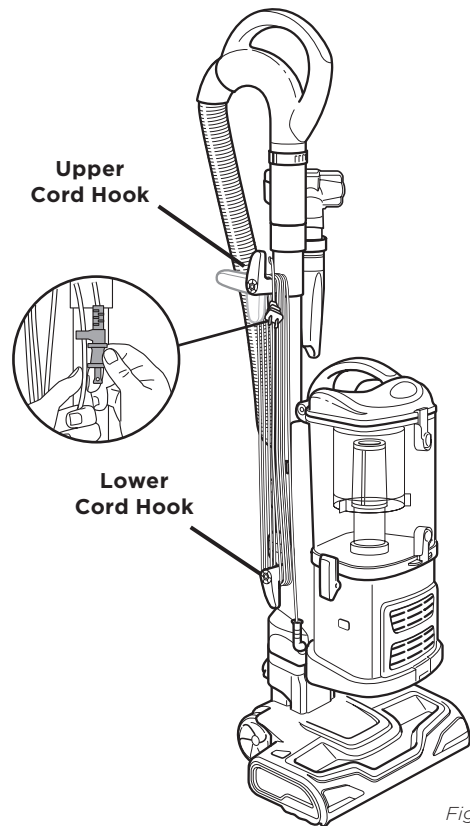

Fig. 12
- 2 Rotate the upper cord hook to its upright position and coil the power cord loosely around the two cord hooks. Clip the plug onto the cord to secure. (Fig. 12)